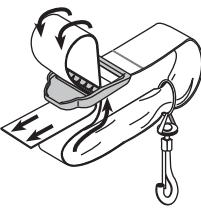

Fig. 4
- Pull the strap over the cross bar and down through the slot in the buckle (Fig. 4).